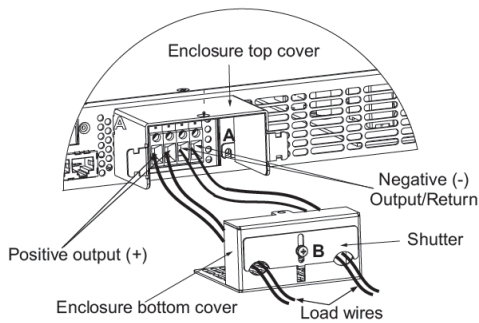

Figure 3-8: Load wires connection to the Output connector.
(Refer to Fig.3-8, 3-9 for installation instructions.)
4. Insert the stripped wires into enclosure opening through the shutter and then to the terminals. Tighten the terminals screws securely. (see Fig.3-8).